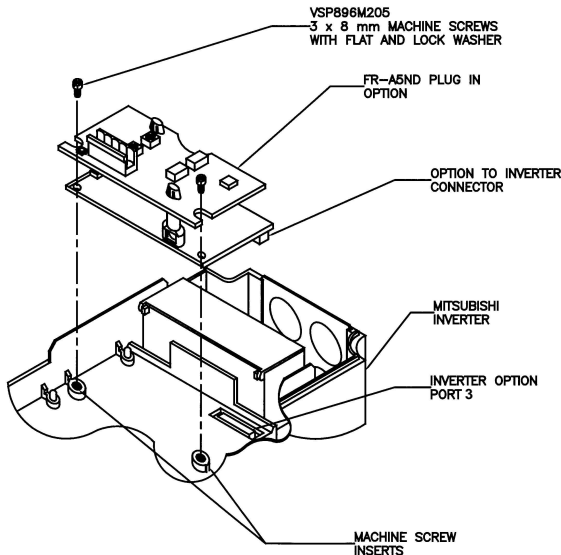

Figure 2-1 : Option Unit Aligned with Option Port #3
- (2) Using the two mounting holes for alignment reference, carefully insert the option unit connector into the inverter connector as shown in figure 2-1 and firmly press the unit into place.